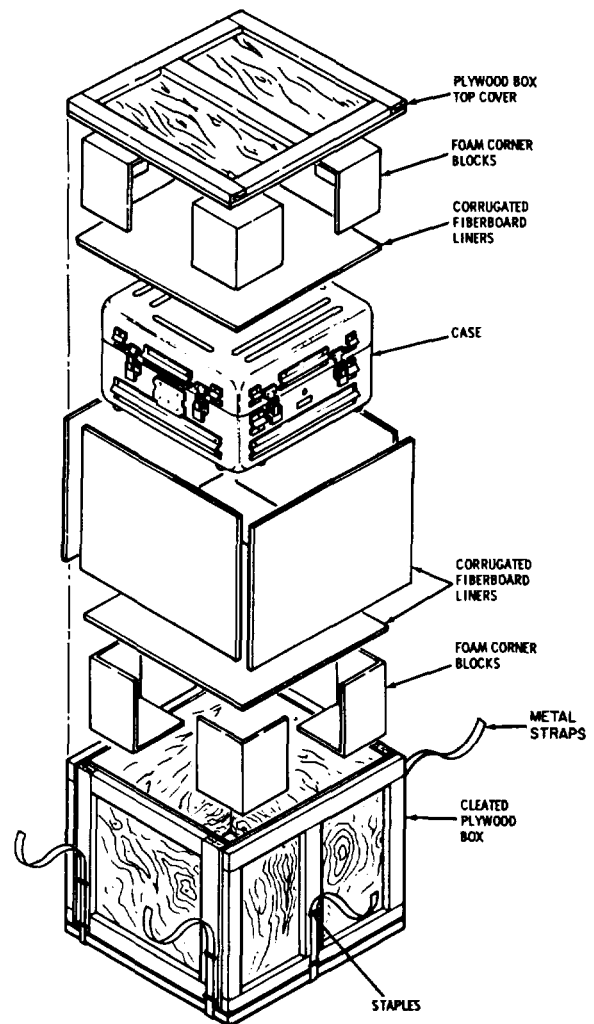

Figure 2-1. Typical packaging of test set.
a. Packaging data. Each unit of the test set is individually packaged for shipment or limited storage in a cleated plywood box (fig. 2-1) reinforced with metal strapping. The plywood box for the indicator simulator and the generator simulator are each 23 inches high by 35 inches wide by 27.5 inches in depth, and have a volume of 16.4 cubic feet. The loaded plywood box containing the indicator simulator weighs 140 pounds and the generator simulator and its plywood box weighs 155 pounds. The plywood box containing the accessories set which houses necessary cables and auxiliary equipment is 16.8 inches high by 23.5 inches wide by 38.8 inches in depth, has a volume of 9.54 cubic feet, and weighs 140 pounds.
(1) Cut the metal straps from around the plywood box.
(2) Remove the nails from the top and sides of the plywood box.
(3) Spread the side covers of the plywood box to provide working space.
(4) Remove the foam corner blocks and corrugated fiberboard liners from around the case.